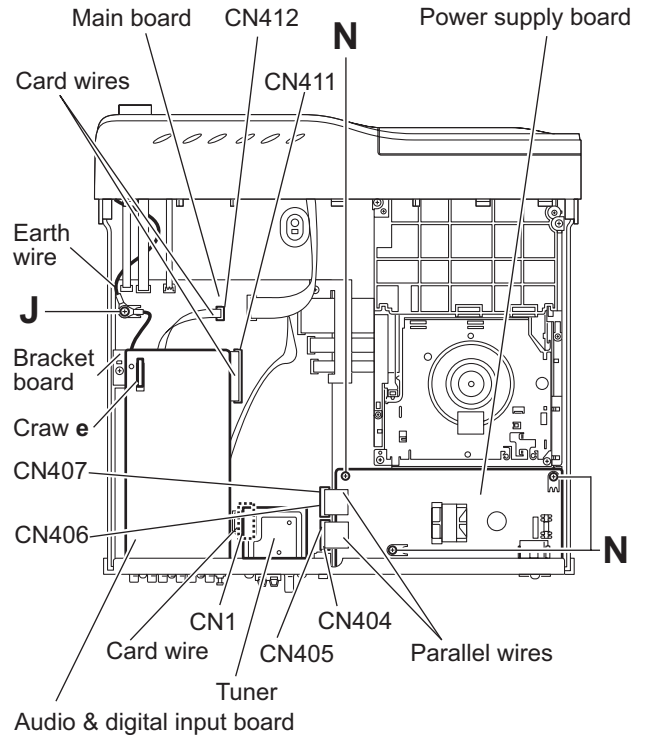

Fig.9
### 3.1.5 Removing the audio & digital input board (See Figs. 9 and 10)
- (1) From the top side of the main body, disconnect the card wires from the connectors (CN411, CN412) on the main board. (See Fig. 9.)
- (2) Remove the screw J attaching the earth wires to the main board. (See Fig. 9.)
When attaching the screw J, attach the earth wires with it. (See Fig. 9.)
- (4) Move the audio & digital input board in the direction of the arrow, and release the claw e of bracket board. (See Fig. 9.)
- (5) Take out the audio & digital input board from the main body.
### 3.1.6 Removing the tuner (See Figs. 9 and 10)
- (1) From the top side of the main body, disconnect the card wire from the connector CN1 on the tuner. (See Fig. 9.)
### 3.1.7 Removing the power supply board (See Figs. 9 and 10)
- (1) From the top side of the main body, disconnect the parallel wires from the connectors (CN404 to CN407) on the main board. (See Fig. 9.)
- (2) Remove the three screws N attaching the power supply board. (See Fig. 9.)